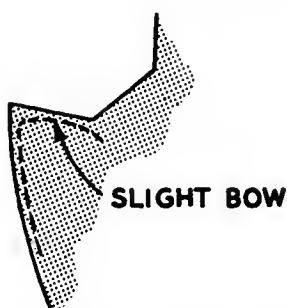

Fig. 184. Stitching the top of the lapel.
- C. When stitching the top of the lapel, stitch with a slight bow to insure a straight edge when turned (Fig. 184).